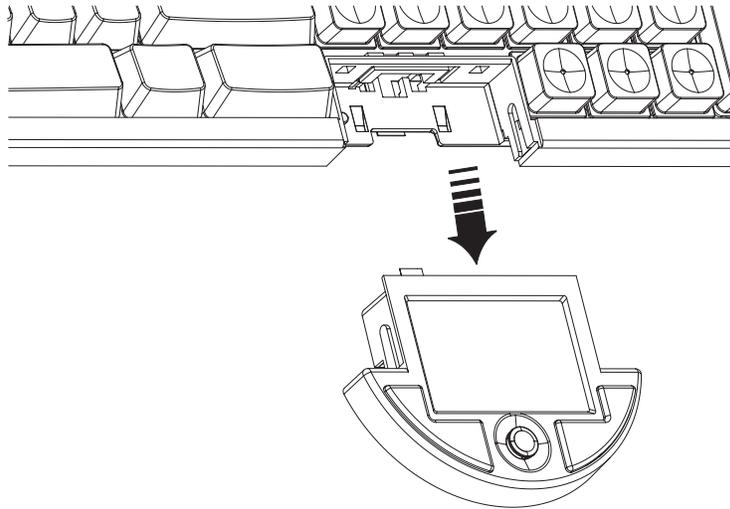

Figure 42. Removing the integrated pointing device from a modular keyboard
2. Slide the integrated pointing device straight down, as shown in Figure 42 on page 44.
1. Reverse the action in Figure 42, ensuring that the integrated pointing device is on its alignment tracks and fits firmly into its plug on the keyboard.